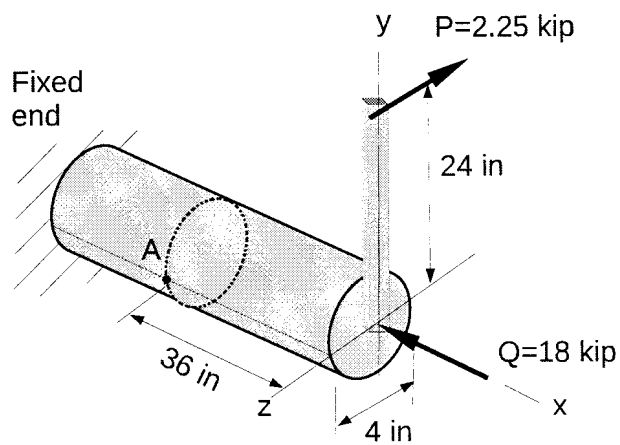

Figure 5.
5). A solid shaft diameter of 4 in. is acted on by forces P and Q as shown in Figure 5. Determine the principal stresses and the maximum shearing stress at points A on the surface of shaft.